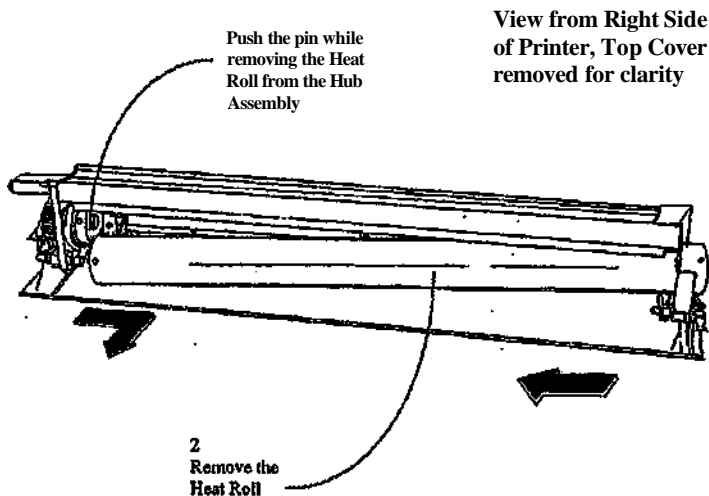

Figure 1. Removing the Heat Roll
4. (Figure 1): Remove the Heat Roll.